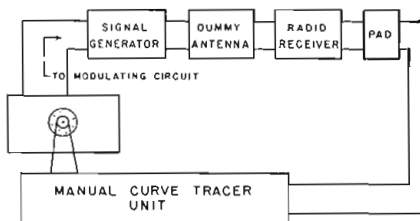
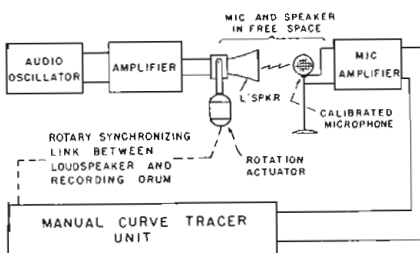

Fig. 5—Test set-up for checking receiver fidelity
Fig. 6—Measurement of loudspeaker polar pattern with tracer
Fig. 5 illustrates how the curve tracer may be used to measure receiver fidelity characteristics, and the set-up in Fig. 6 plots the polar diagram of a loudspeaker acoustical output. Many other uses may be found for the graphic recorder, some of which are listed as follows: (1) microphone frequency response from artificial voice; (2) headphone response on artificial ear; (3) audio amplifier or network response; (4) constant current loudspeaker equivalent impedance versus frequency; (5) amplifier overload characteristics and (6) polar directivity of a beam antenna.